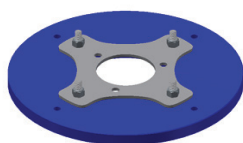

Figure 6
3.0.4) Attach centering ring to centering ring adaptor plate using (4) 1/2"-13 x 2.5" hardware. It is recommended that the locking nuts be placed on the adaptor plate side (see Figure 6).